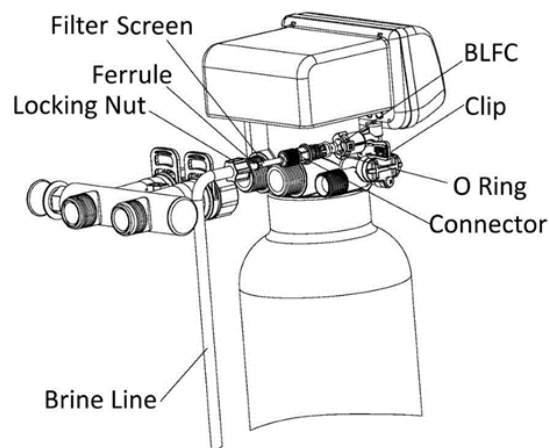

Figure 1-5
- As Figure 1-5 shows; slide brine nut onto the 3/8" brine tubing.